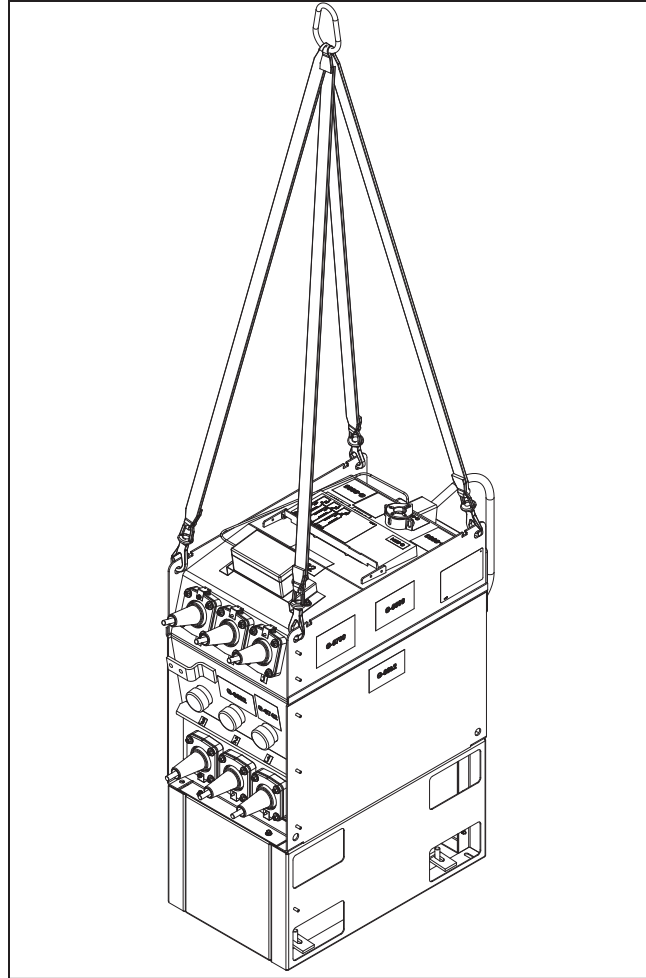

Figure 3. Using hoist slings to lift the switchgear.
- Arrange the hoist slings so as to distribute the lifting forces equally between the lifting tabs. See Figure 3.